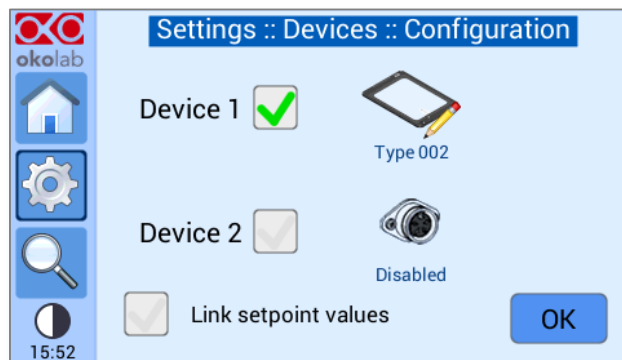

Figure 17. Selection of one heating device.
**Note** ► If only one heating device is connected, do not flag the box of Device 2. The device will be automatically disabled (see Figure 17).